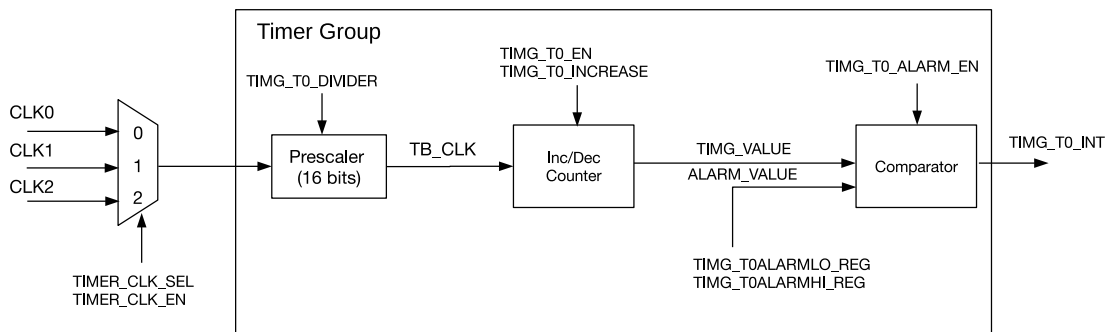

Figure 15.3-1. Timer Group Architecture
Figure 15.3-1 is a diagram of timer T0 in a timer group. T0 contains a 16-bit integer divider as a prescaler, a timer-based counter, and a comparator for alarm generation.
- The selected clock can be switched on by setting `PCR_TGO_TIMER_CLK_EN` field of the `PCR_TIMERGROUPO_TIMER_CLK_CONF_REG` register to 1 and switched off by setting it to 0. This field is indicated as `TIMER_CLK_EN` in Figure 15.3-1. The clock is then divided by a 16-bit prescaler to generate the time-base counter clock (TB_CLK) used by the time-base counter. The divisor of the prescaler can be configured through the `TIMG_T0_DIVIDER` field.